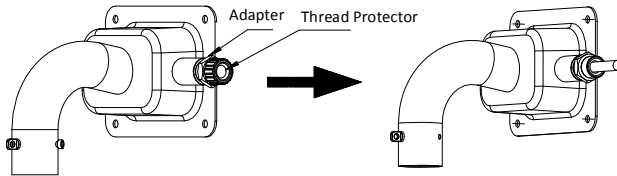

Figure 2-12 Seal the Cable Entry
- Seal the cable entry by installing the protective steel tube on the adapter as shown in Figure 2-12.